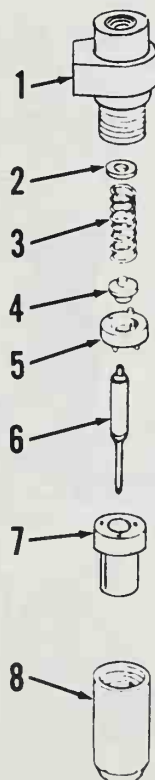

Fig. KR1-5—Exploded view of injector.
Opening pressure with a new spring (3—Fig. KR1-5) should be 14.2-14.7 MPa while opening pressure with a used spring should be approximately 13.2 MPa. Opening pressure is adjusted by varying number and thickness of shims (2). Valve should not show leakage at orifice spray holes for 10 seconds at 12.2 MPa.
OVERHAUL. Clamp injector body (1—Fig. KR1-5) in a vise with nozzle tip pointing upward. Remove nozzle holder nut (8). Remove nozzle (7) with valve (6) and spacer (5). Invert injector body (1) and remove push pin (4), spring (3) and shims (2). Thoroughly clean all parts in a suitable solvent. Clean inside orifice end of nozzle with a wooden cleaning stick. Orifice spray holes may be cleaned by inserting a cleaning wire slightly smaller than spray holes.